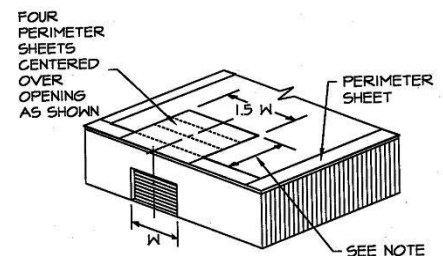

Figure 1
2. **Buildings with large openings (Figure 1)** - When any wall contains major openings with a combined area which exceeds 10% of the total wall area on which the openings are located, a minimum of four (4) perimeter sheets (centered over the opening) must be specified as shown. As an option to the above perimeter securement, an adhered membrane section may be used in lieu of the mechanically fastened membrane at large openings in accordance with the Mule-Hide Fully Adhered TPO Roof System Specification.